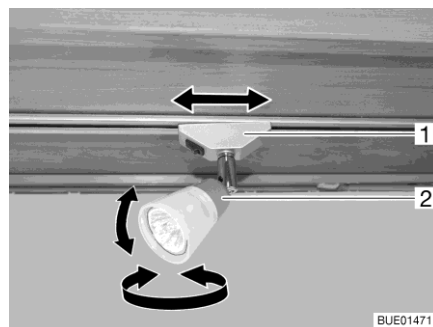

Fig. 27 Spotlight
- Turn housing (Fig. 27,2) of the spotlight to the desired direction. The housing can be turned in following directions:
- Turn holder (Fig. 27,1) through approx. 45°.
- Turn holder (Fig. 27,1) through 90°.